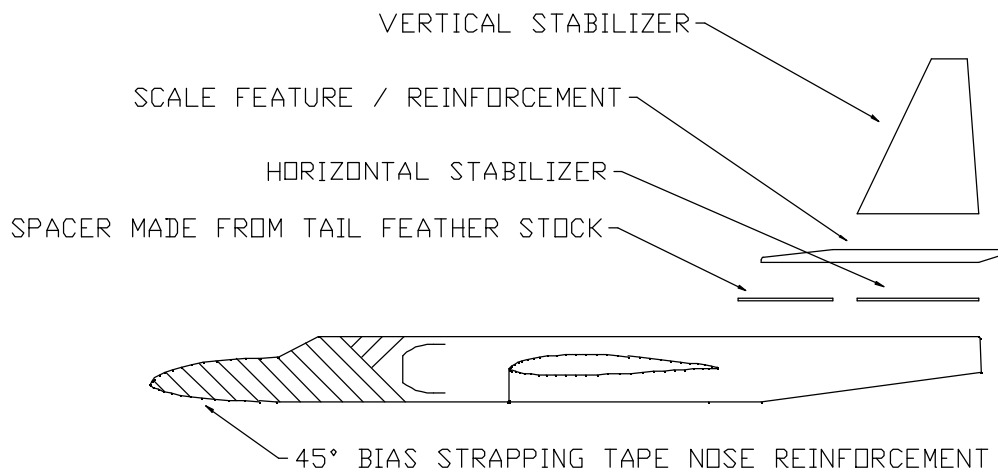

Figure 11
- ❑ Tape fuselage nose with a minimum of 3 layers of 45 degree bias tape. (see figure 11)